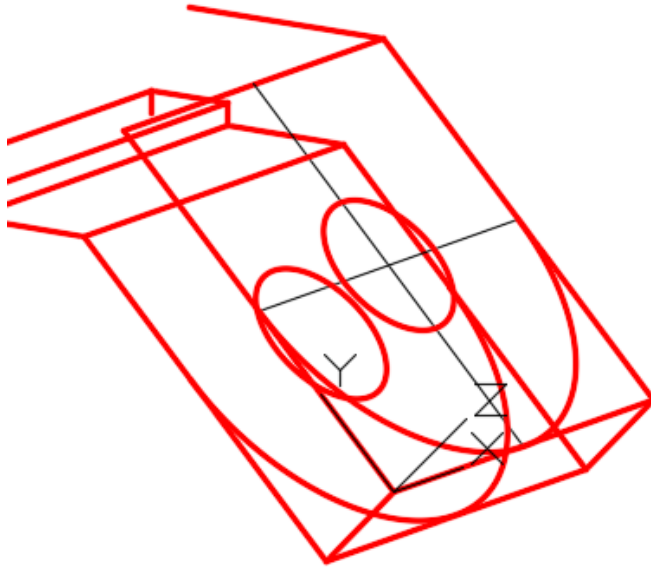

Figure Step 12
Step 12 Using OFFSET command, offset the existing lines to locate the center of the circle and arc on the inclined plane. Change the lines to layer: Construction. Insert the circle and the arc and copy them 25 millimeters to the bottom plane. Before you do complete this step, read the User Tip on page 5-16. (Figure Step 12)